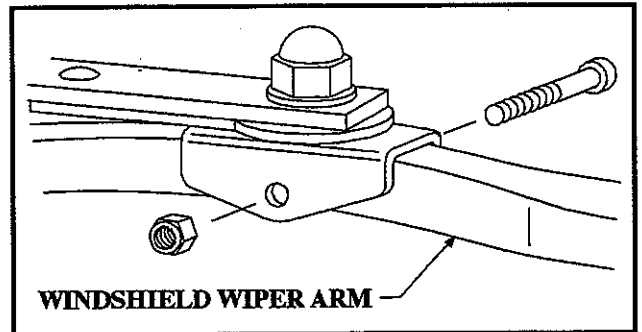

Figure 3—Windshield Wiper Blade Assembly Bracket
See Figure 3—Windshield Wiper Blade Assembly Bracket Location
1. Remove the bolt from the bracket assembly on the wiper arm. (See Figure 3—Windshield Wiper Blade Assembly Bracket.)